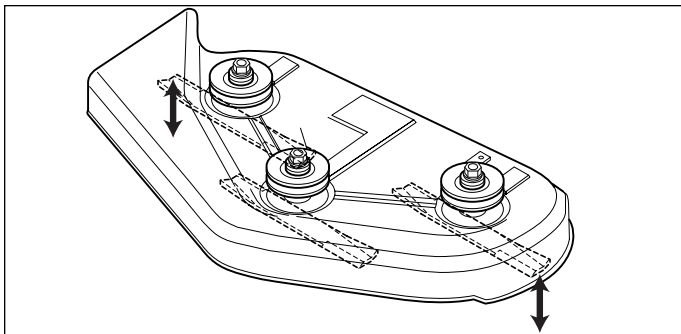

Figure 27. Orient Blades Side-to-Side
3. Place the mower cutting height lever in the fourth adjustment notch from the bottom. Arrange the outside mower blades so that they are pointing from side-to-side (Figure 27).
4. Measure the distance between the outside tips of each blade and the ground (Figures 27 & 28). The measurement should be 3" (7,6 cm), $\pm 1/8$ " (3mm). If there is more than $1/8$ " (3mm) difference between the measurements on each side, proceed to step 5. If the difference is $1/8$ " (3mm) or less, proceed to step 6.